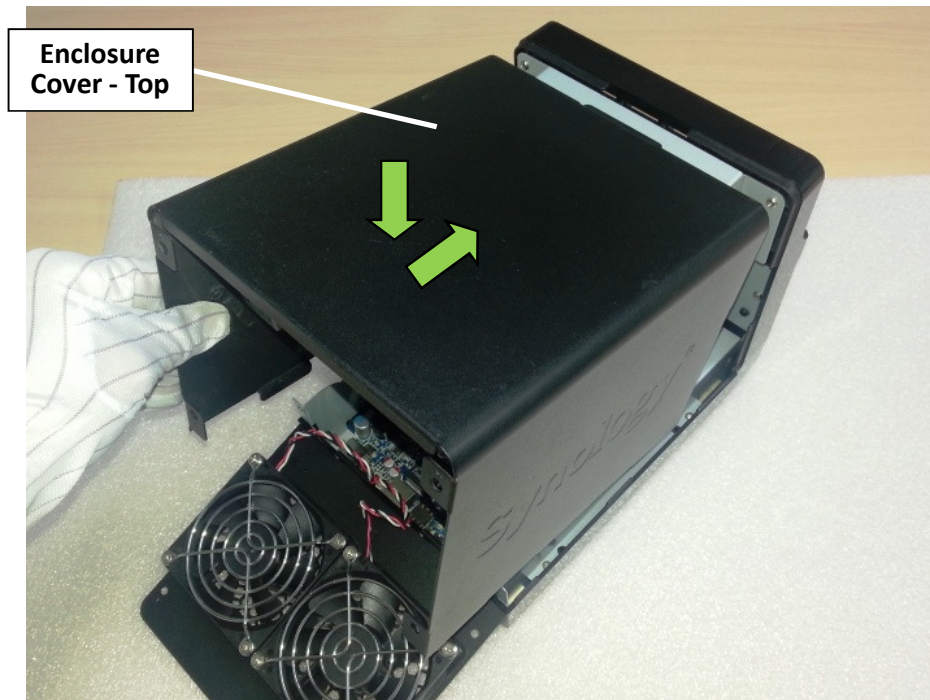

Fig. 83
3.2.11 Restore the enclosure cover to its original location. (Fig. 83)